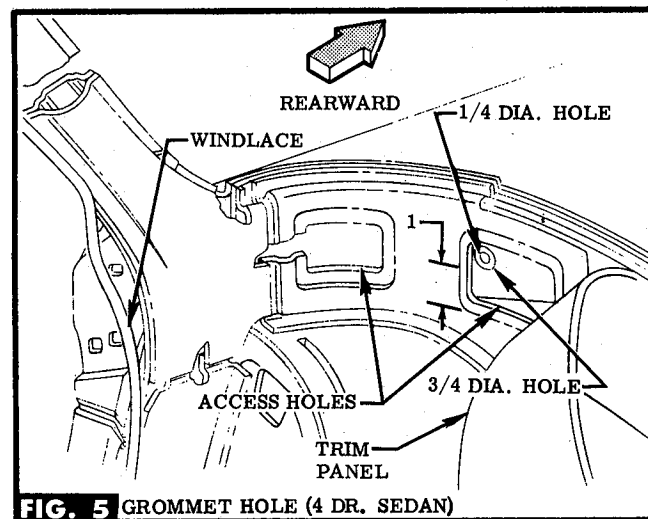

FIG. 5 GROMMET HOLE (4 DR. SEDAN)
STEP 5 (4 DR. SEDAN) PULL DOWN REAR SEAT BACK ON FOLDING SEAT OR REMOVE REAR SEAT BACK IF STATIONARY. LOOSEN THE R. H. REAR TRIM PANEL BY REMOVING THE WINDLACE ALONG DOOR OPENING. LOOSEN & PULL FORWARD THE R. H. PORTION OF THE REAR TRIM PANEL EXPOSING ACCESS HOLES. LOCATE, CENTERPUNCH & DRILL 1/4 HOLE INTO WHEELHOUSE, THRU ACCESS HOLE. FROM INSIDE WHEELHOUSE USE 1/4 HOLE AS A GUIDE TO DRILL 3/4 HOLE. SEE FIG. 5.